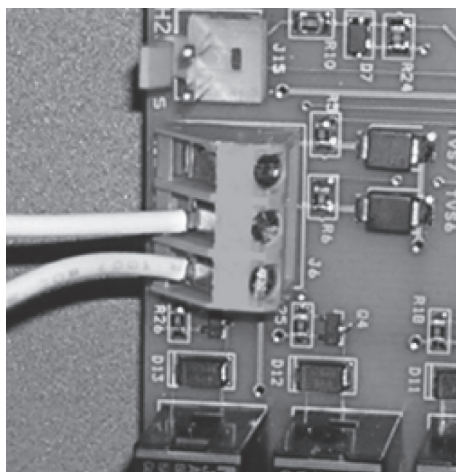

Figure 11b. AquaLink RS or Remote TSTAT Connection (2-Wire Connection)
4. Connect the wiring from the pool/spa control system to the heat pump remote control terminal (See Figure 11b).